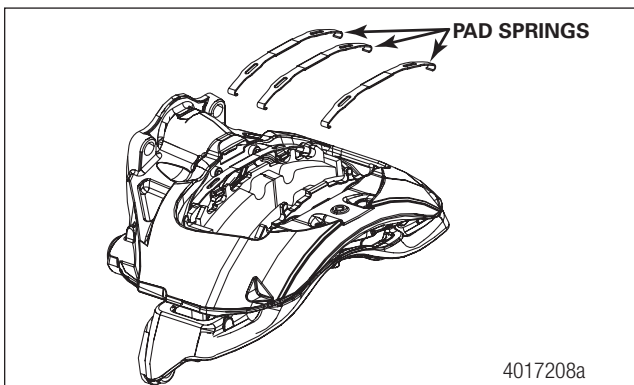

Figure 6.8 Pad Springs
- Remove the pad springs. Figure 6.8.